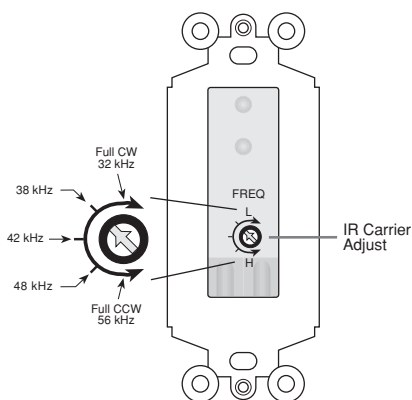

Fig. 4 IR Carrier Frequency Adjust-
The 780-80 is factory set to an IR carrier repeat frequency of 38 kHz. This will be correct for the majority of installations. However, some manufacturer's components that you wish to control may use different carrier frequencies (such as the RCA DSS satellite receivers that use 56 kHz). If such carrier frequencies fall within the range of 32 kHz to 56 kHz, you can adjust the 780-80 to match them for best range performance. The adjustment can be made through a small opening on the front. See **Fig. 4**.
3. Using a small blade type screwdriver (3/32" blade width max.), rotate the adjustment shaft until the slot lines up with the desired frequency. Refer to **Fig. 4**.
NOTE: The frequency markings shown in **Fig. 4** are approximate only. You may need to "fine tune" the adjustment for best performance.
- If you have products in the same IR system that have different IR carrier frequencies, you will have to adjust the 780-80 to a midway position. For example, some may operate at 38 kHz and others at 56 kHz. In this case, set the adjustment to approximately 47 kHz, a midway position just to the right of the 48 kHz marking in **Fig. 4**.